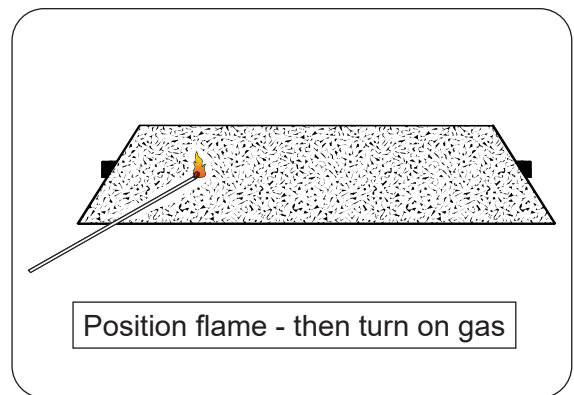

Fig. 14-1
3. Light a long-stem match or a long-necked butane lighter, and place the flame against the surface of the decorative media near the burner (Fig. 14-1).